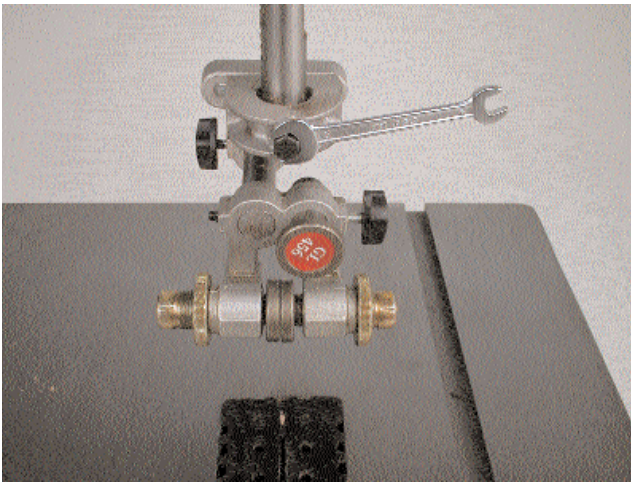
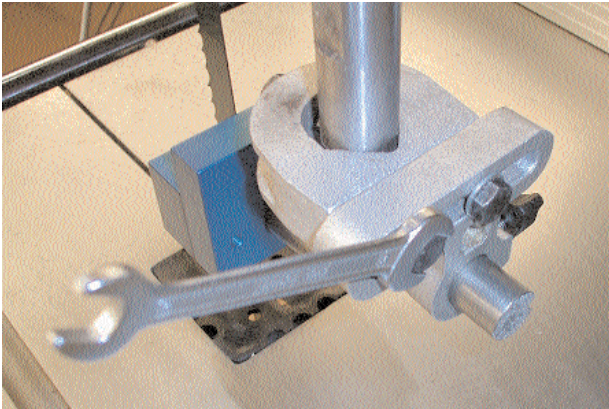

Fig. 3
Fig. 10
3. Remove the GL456 blade guide by loosening the bolt as shown in Fig. 3.
11. Install a blade (a 1" blade will give best results when initially adjusting the guides). Loosen the bolts in the sideways adjustment bracket. See Fig. 10. Loosen the clamp bolt shown in Fig. 3. Rotate the guide assembly while moving the guide sideways until it contacts the side of the blade. The side ceramic block must be parallel to the blade. Once this has been achieved, the clamping bolt shown in Fig. 3 must be fully tightened.
12. Move the guide assembly sideways until the blade is in the center of the back blade guide. Tighten the bolts in the sideways adjustment bracket. See Fig. 10.